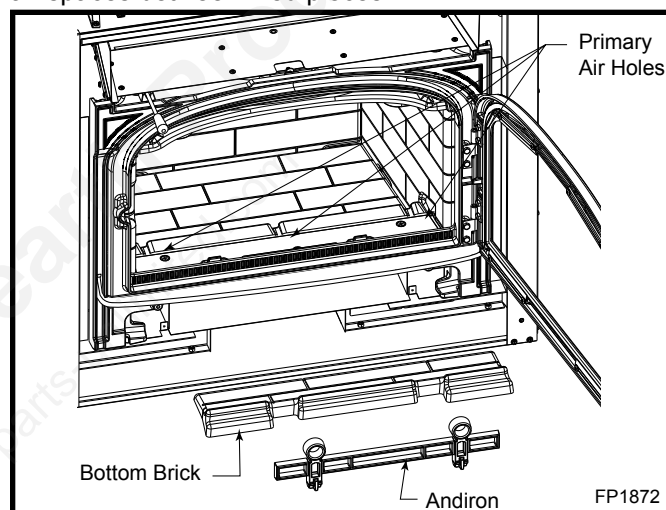

Fig. 38 Keep primary air holes free of ash for proper performance.
Check the ash level, and remove excess ash. Three (3) primary air holes located under the front brick provide air to the coal bed. (Fig. 38) These holes should be cleared of ash for proper performance.